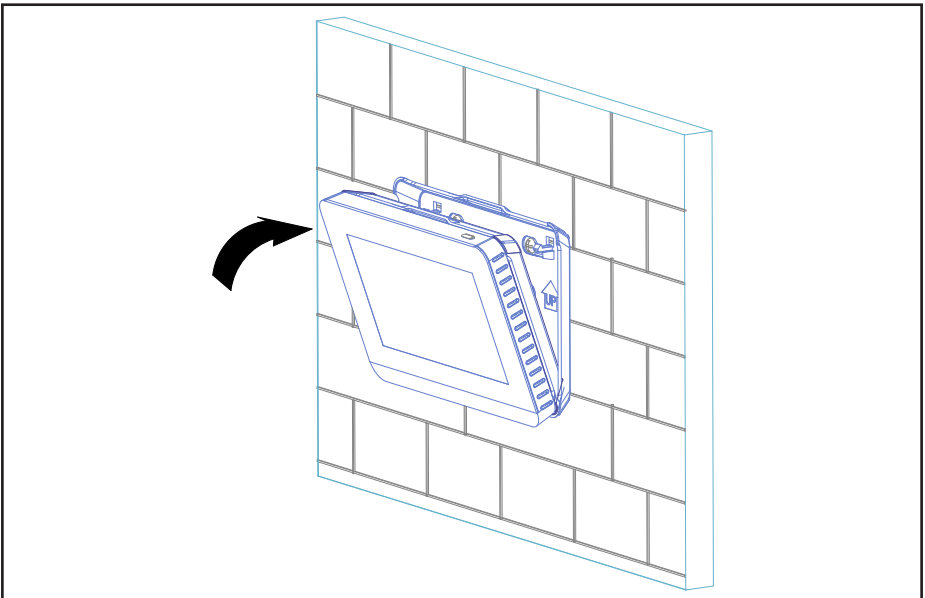

Figure 6. Snap Controller Into Place
4. Push the controller back toward the wall until it “snaps” into place. See Figure 6.